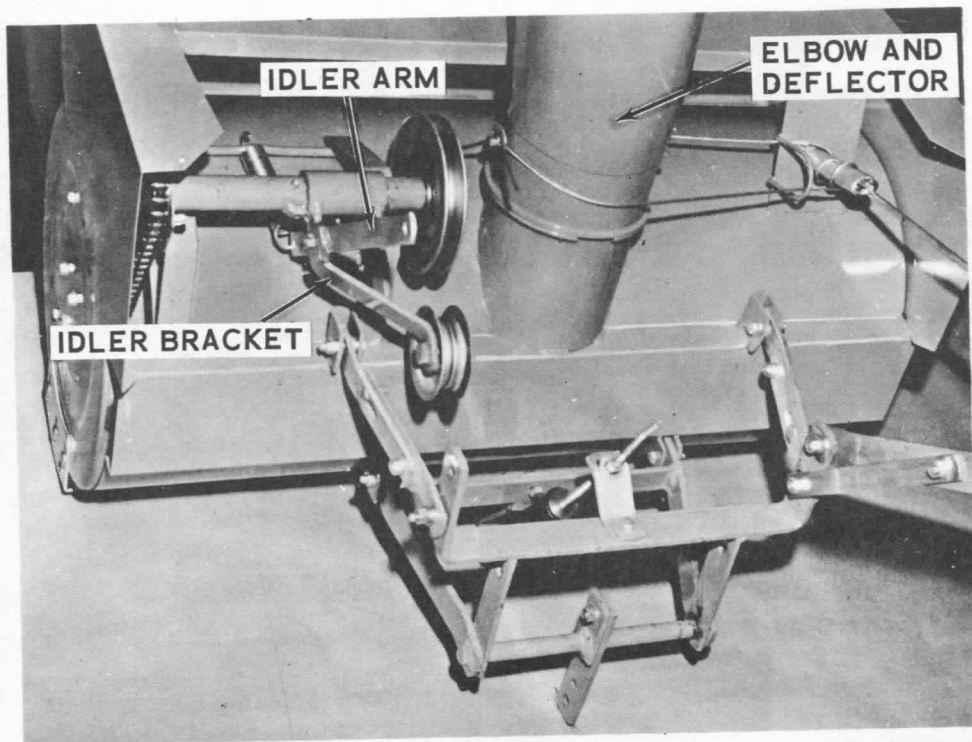

Figure 18
8. Secure the idler arm (Figure 18) to idler bracket with the $\frac{5}{16}$ " x $\frac{3}{4}$ " cap screw and lock nut. Be sure the square guide on the idler arm is resting evenly on the idler bracket before tightening the lock nut.